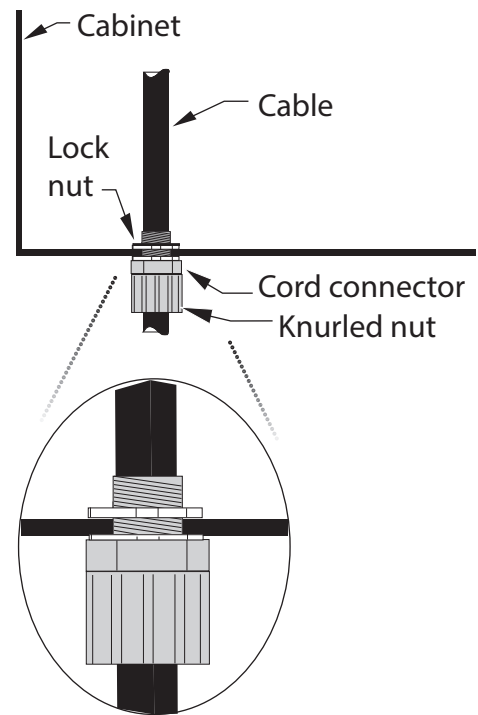

Figure 9
Step 8: Install cable stub and cable entry kit on Factory-stubbed Housings (Cable stub exiting cabinet from inside) as follows (Figure 9):